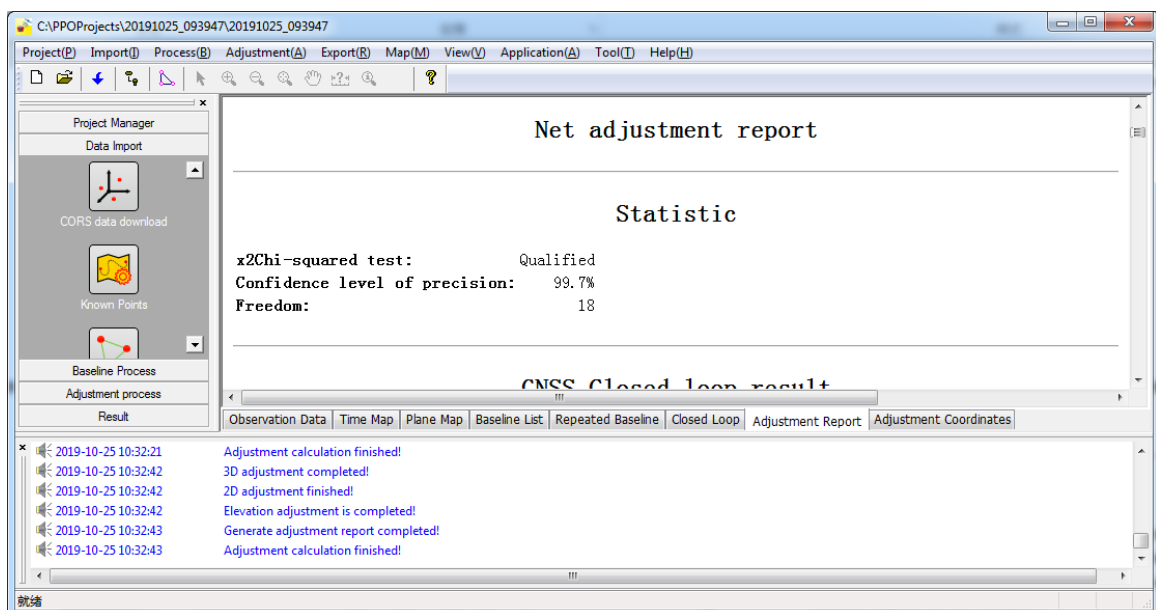

Figure 2-10
- c. Click [Adjustment] - [Adjustment Processing], the adjustment report is as shown in Figure 2-10.